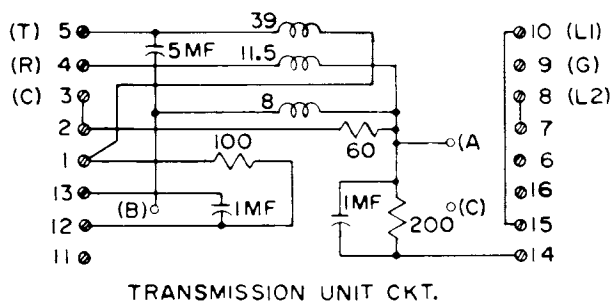

Figure 4. Schematic, Transmission Unit For Manually Adjusted Telephone.
3.02 The Type 85 telephones have either a self-compensating or manually adjusted transmission unit. In a self-compensating telephone, the transmission unit automatically balances the impedance characteristics of the line, and reduces sidetone. In a manually adjusted telephone, a rheostat (loop compensator) is used to balance the impedance characteristics of the line, and reduce sidetone. Presently, the transmission unit used is a printed wire card; previous models used a potted type transmission unit. The circuit of both transmission units is the same, but the physical location of the various terminals differ. The physical location of the terminals of a printed wiring card transmission unit is shown in Figure 2. The schematic for both units is shown in Figure 3. The schematic used in manually adjusted telephones is shown in Figure 4.